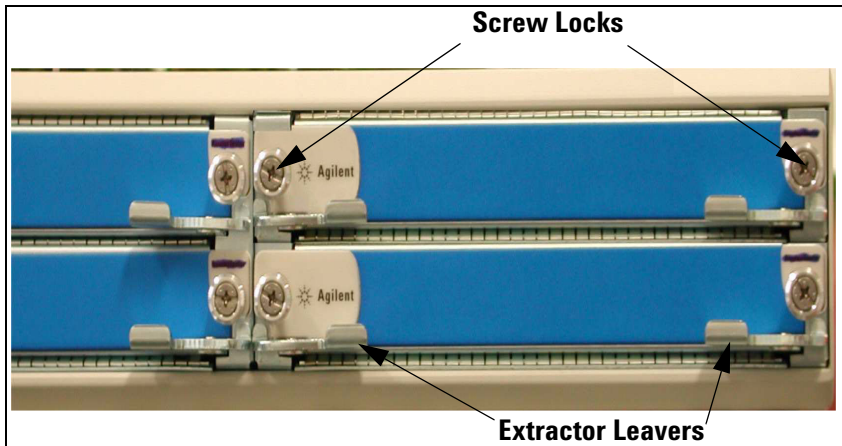

Figure 7 Chassis with I/O Modules
- 1 Unscrew the screw locks (Figure 7).